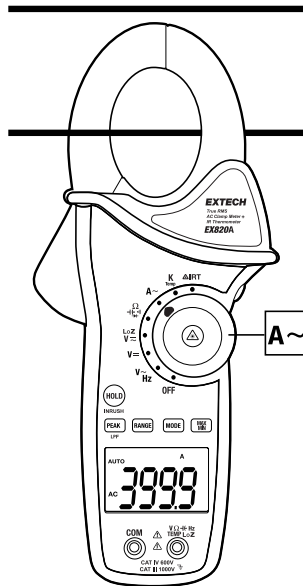

Figure 5.1 AC current clamp measurements. Clamp only one conductor, as shown.
2. Press the trigger to open jaw. Fully enclose only **one** conductor as shown in Figure 5.1.